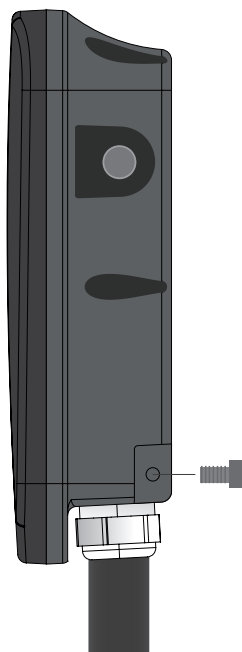

Fig. 5.5.2
2. Hang the charging station to the wall bracket and fasten the bolts on the each side. (See Fig. 5.5.2)